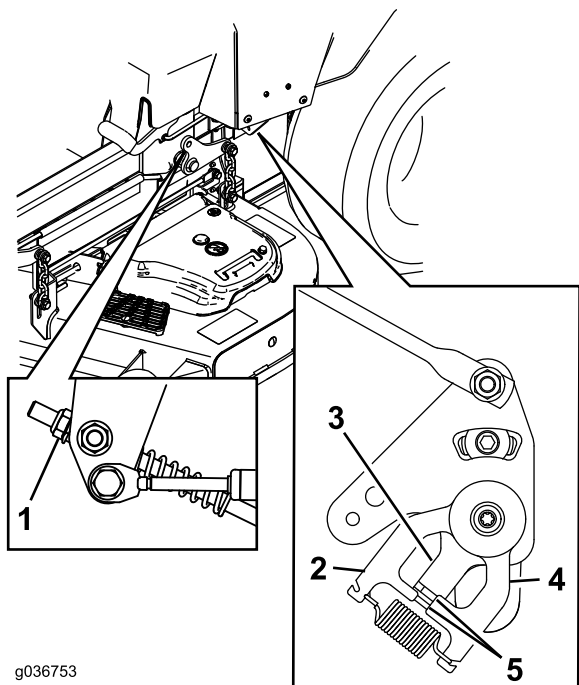

Figure 60
- Adjust the pump-control-rod lengths by rotating the nut in the appropriate direction until the wheels slightly creep in reverse (Figure 60).